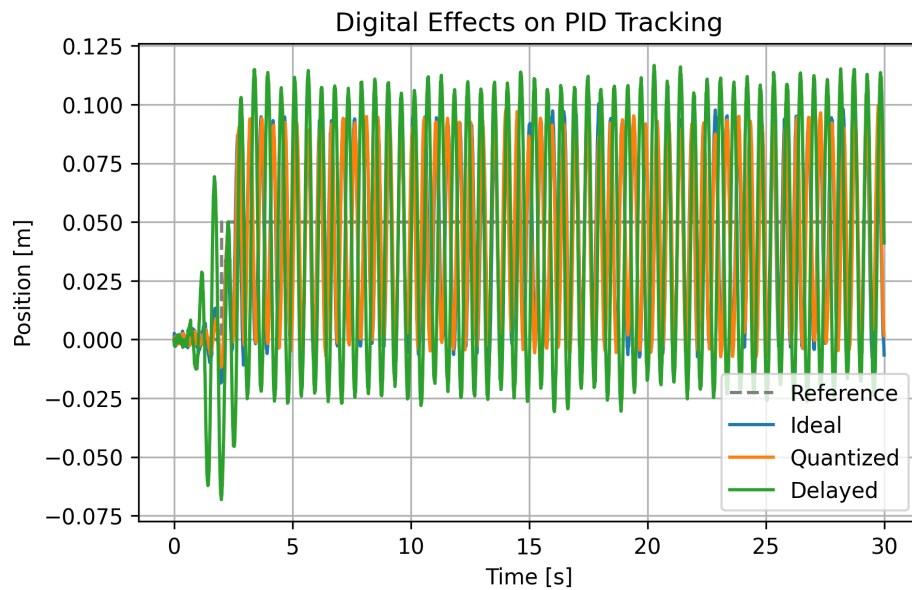
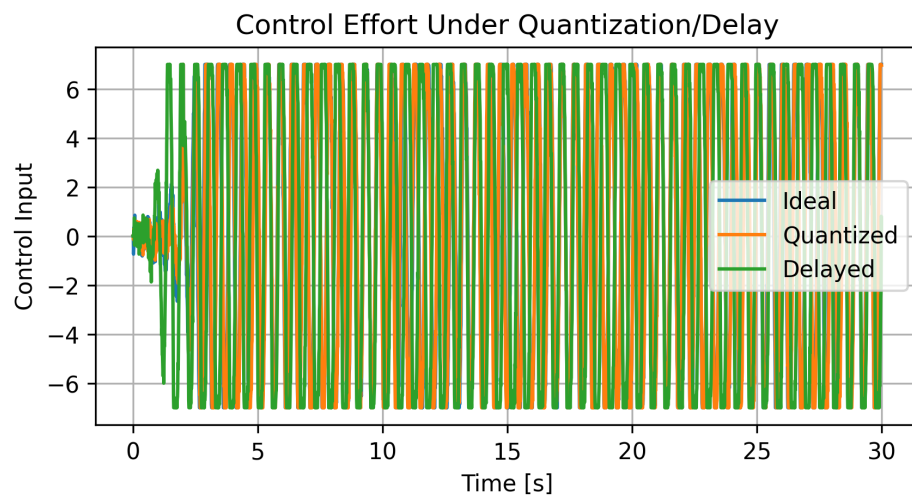

Figure 8.1: Impact of quantization and sensor delay on PID tracking.
Figure 8.2: Control effort under ideal, quantized, and delayed execution.
2. Study Figure 8.1 to compare ideal, quantized, and delayed PID loops; note how quantization amplifies steady-state error while delay introduces oscillation.
4. Inspect Figure 8.2 to assess actuator usage under each scenario and motivate anti-windup strategies.
- **Quantisation/delay:** evaluate tracking degradation (Figure 8.1) and control effort (Figure 8.2); implement anti-windup where saturation is visible.